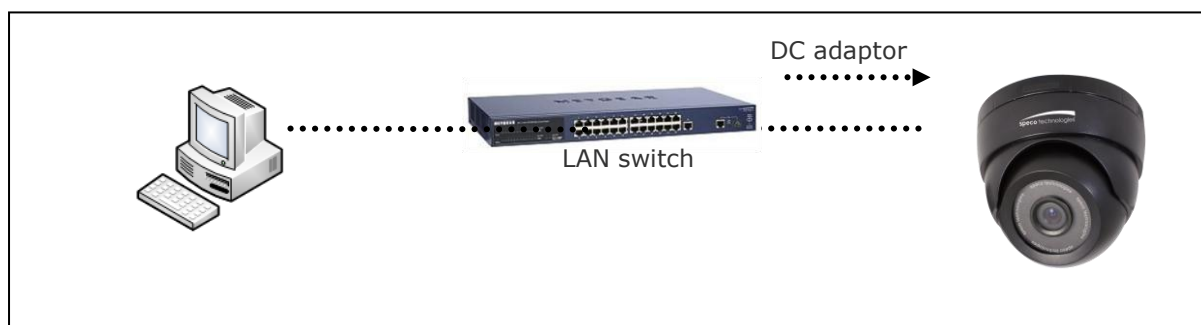

Figure 4-1. Power and network connection
- 2) OIPC22T7G as shown in dotted line in Figure 4-1. The DC power is applied through DC adaptor.